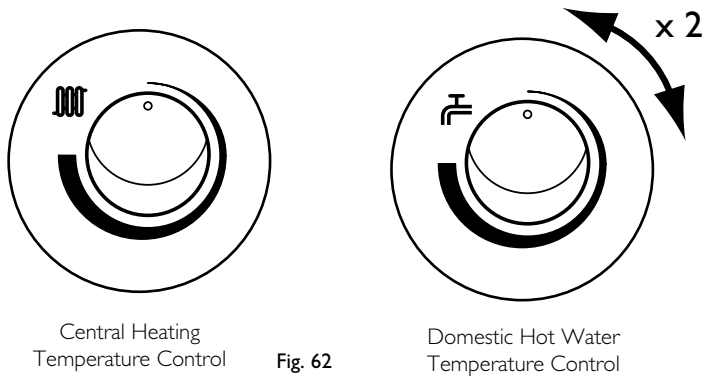

Fig. 62
3. Turn both temperature control knobs fully anticlockwise, then quickly turn the DHW temperature knob  $\frac{1}{4}$  clockwise twice and back fully anticlockwise (Fig. 62).